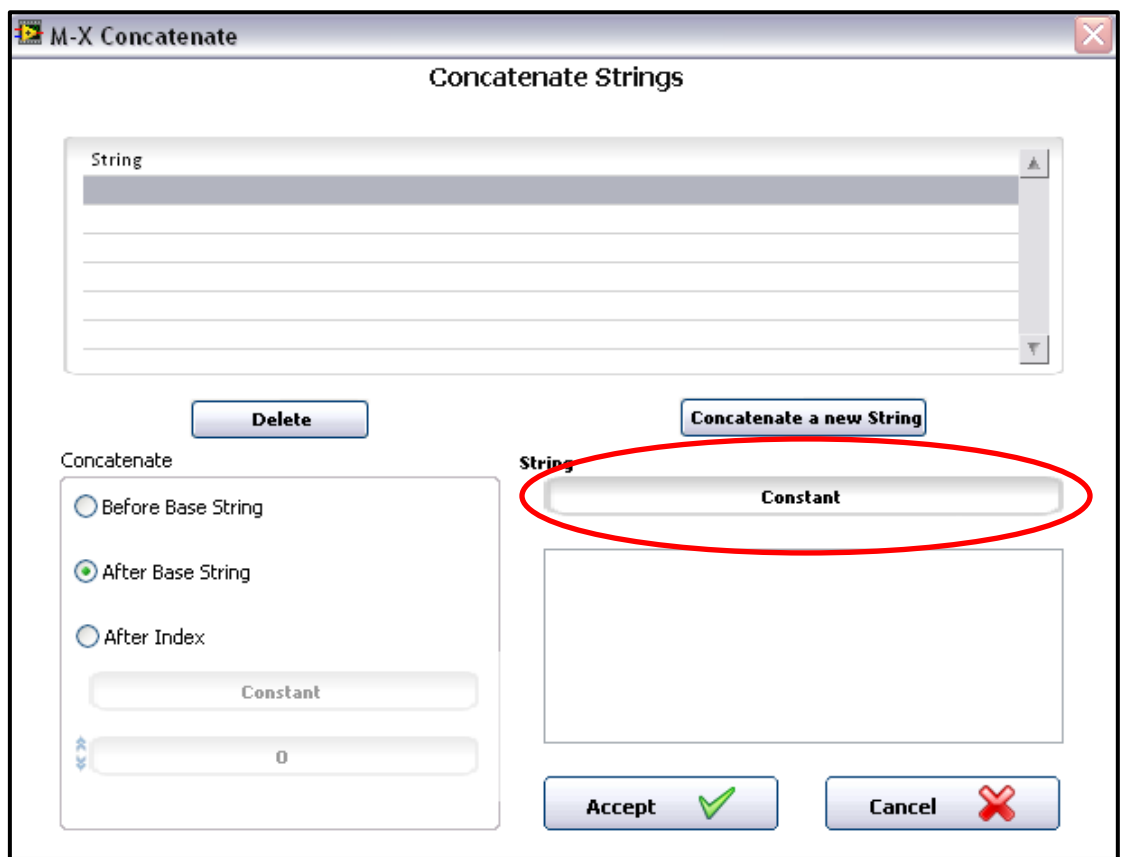
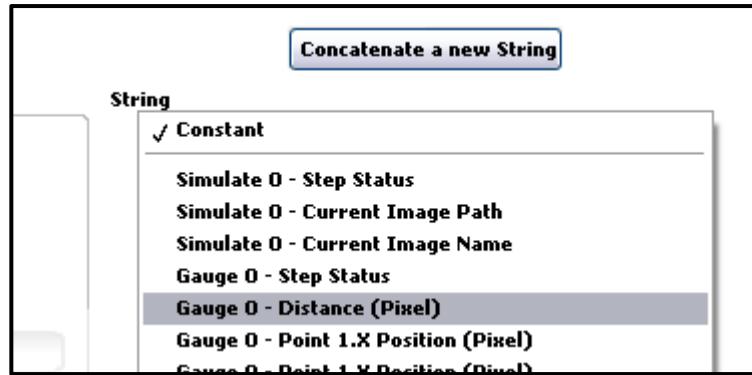

Figure 114. Select an element from String control.
Figure 115. Select a measurement result.
3. The basic function in the step is the Concatenate tool with which a Base String is created by concatenating one or more elements from the session as strings. Click on Concatenate and add either a Constant string or an element from the session [Figure 114]. In this example, distance given by a Gauge function is concatenated [Figure 115].